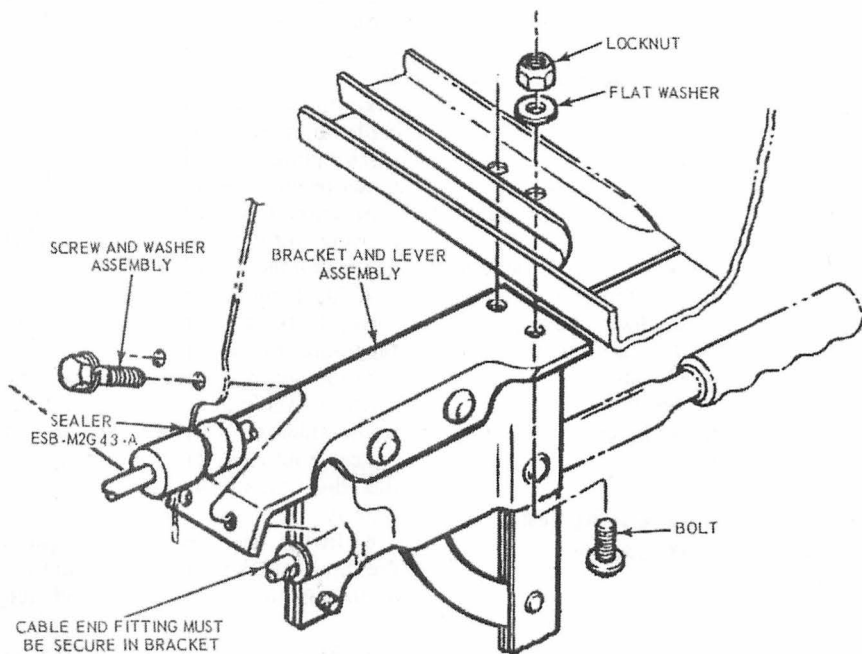

FIG. 17—Parking Brake Handle
Refer to Figs. 17 and 18.
3. Loosen the adjusting nut on the equalizer rod, and disconnect the cable from the equalizer (Figs. 17, 18 and 19).